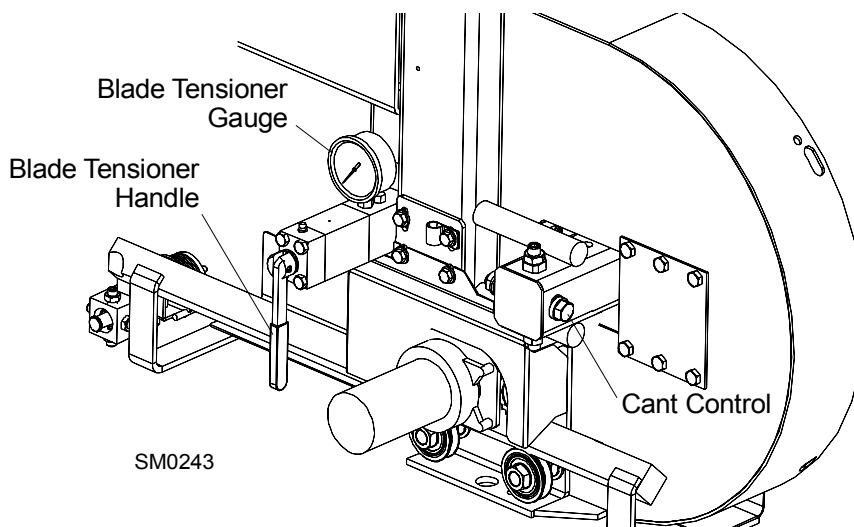

FIG. 2-5
See Figure 2-5. Tension the blade by turning the hydraulic tensioning handle clockwise until the tension gauge indicates the recommended tension.
4. To adjust where the blade travels on the blade wheels, use the cant control shown in Figure 2-5.